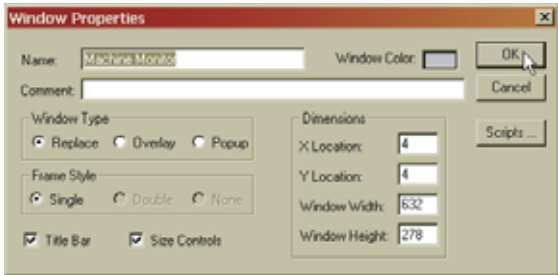

FIG. 240: WINDOWMAKER/OPENING A NEW WINDOW
- Step 22. Click on New Window. The “Window Properties” dialog box appears. (See Fig. 240)